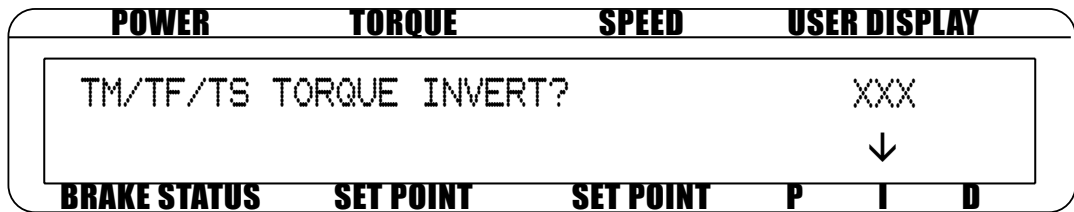

Fig.6-7 Torque Invert Flag Screen
1. See Section 3.2.1 - Dynamometer Configuration. When the TM/TS/TF torque sensor is chosen, after the max torque screen, the TM/TS/TF torque reading invert flag screen will be displayed as in Figure 6-7 Torque Invert Flag Screen.